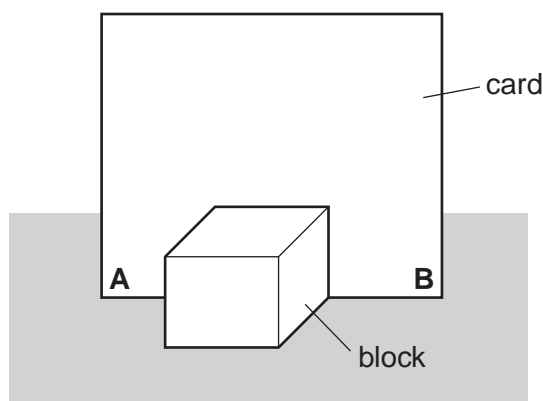

Fig. 4.1
2. The piece of card is to have one edge labelled **A** and the opposite edge labelled **B**. The card is to be fixed to a supporting block as shown in Fig. 4.1.